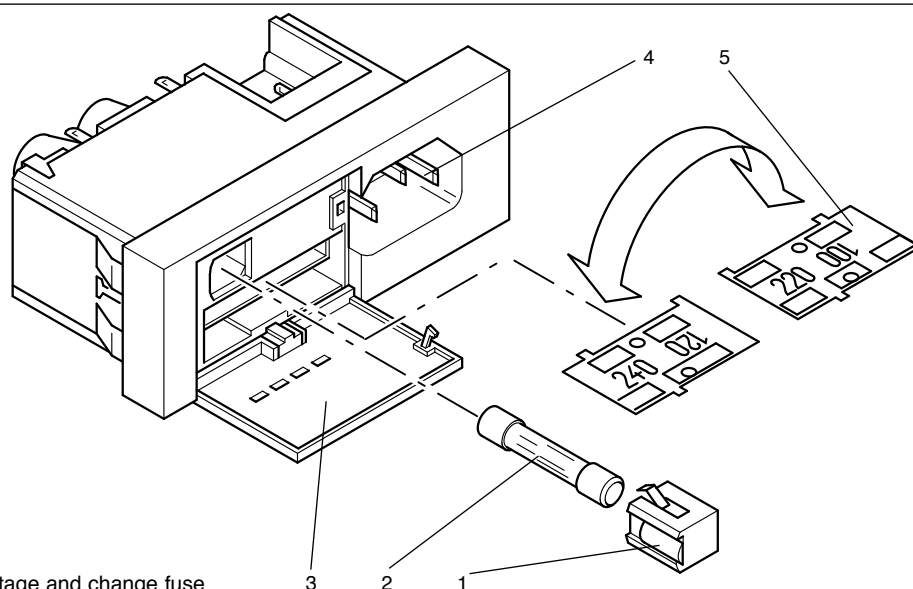

Fig. 3 Set TURBOTRONIK to the mains voltage and change fuse
Key to fig. 3
- 3 Mains voltage settings and fuse; see fig. 3